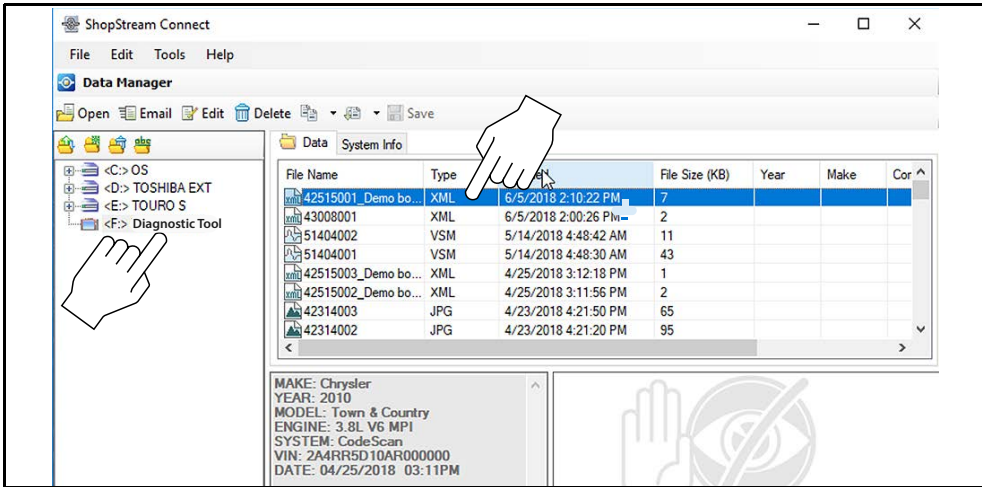
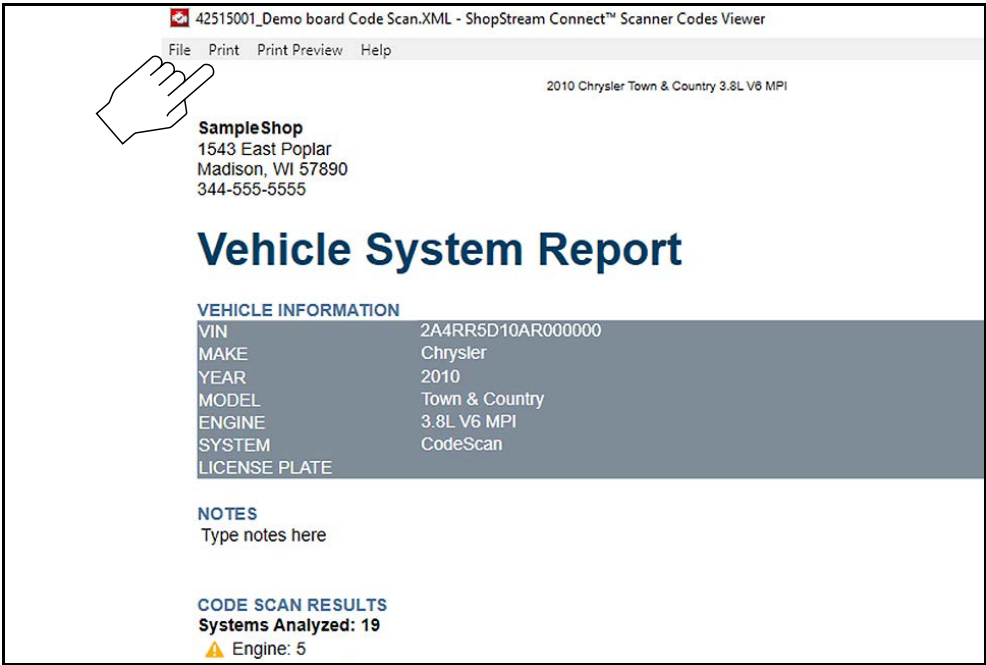

Figure 13-5
Figure 13-6
- 1. Double-click the code scan .XML file from the file list to open the Vehicle System Report (Figure 13-5) in the Code Scan Viewer (Figure 13-6).
- 2. Select **Print** or **Print Preview** from the Code Scan Viewer menu to print or preview the Vehicle System Report (Figure 13-6).